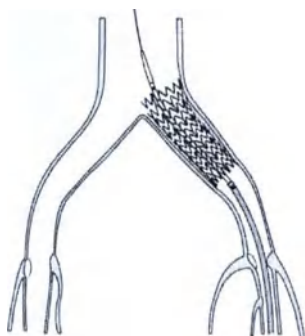

Fig. 8
6. The stent is fully deployed when the handle (a) reaches the hub (b). (Fig. 8)